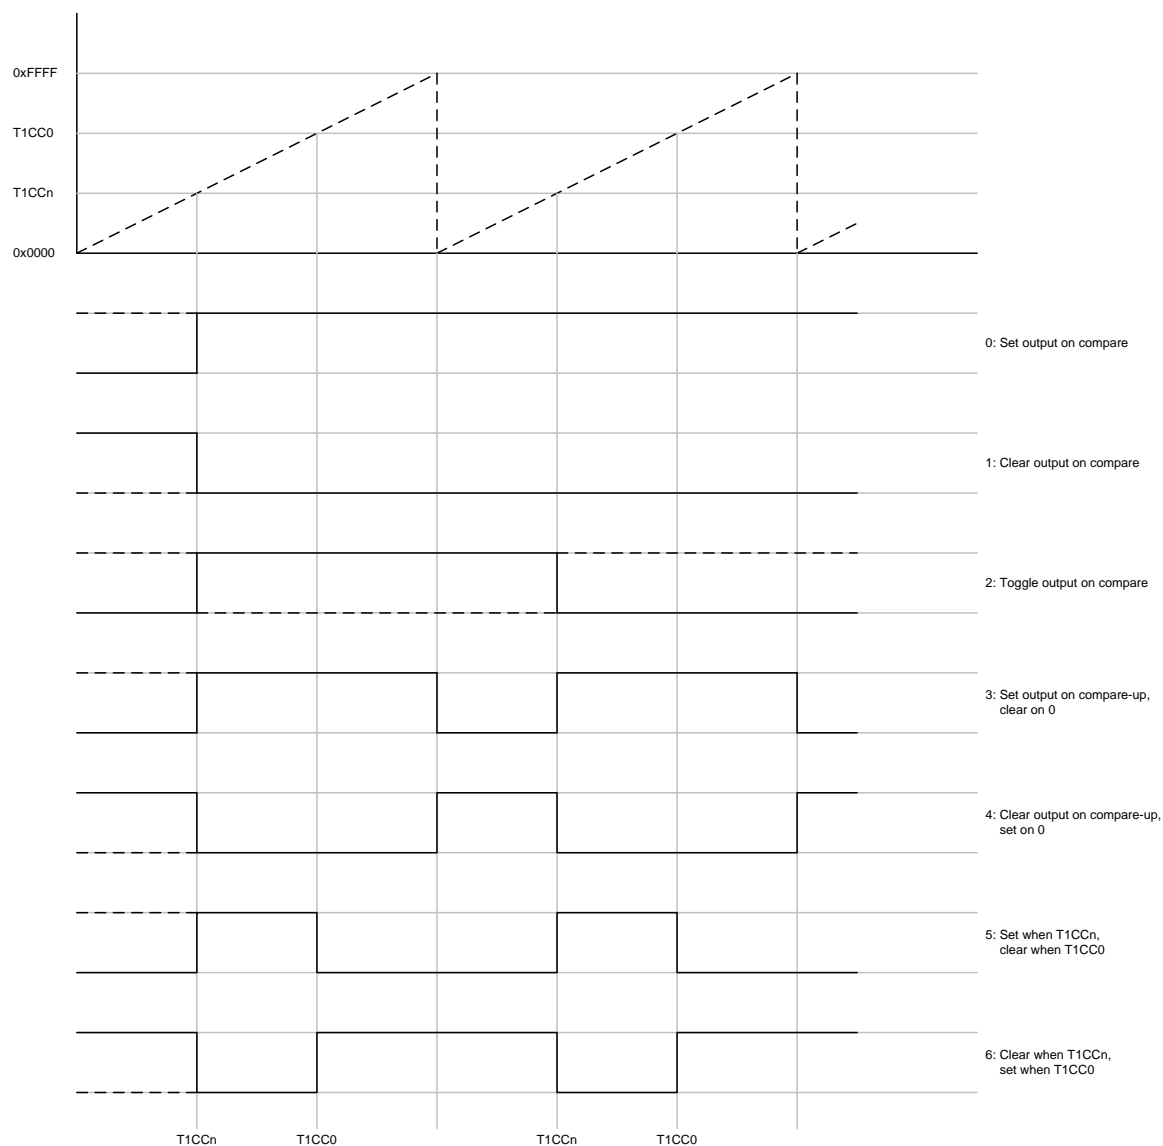
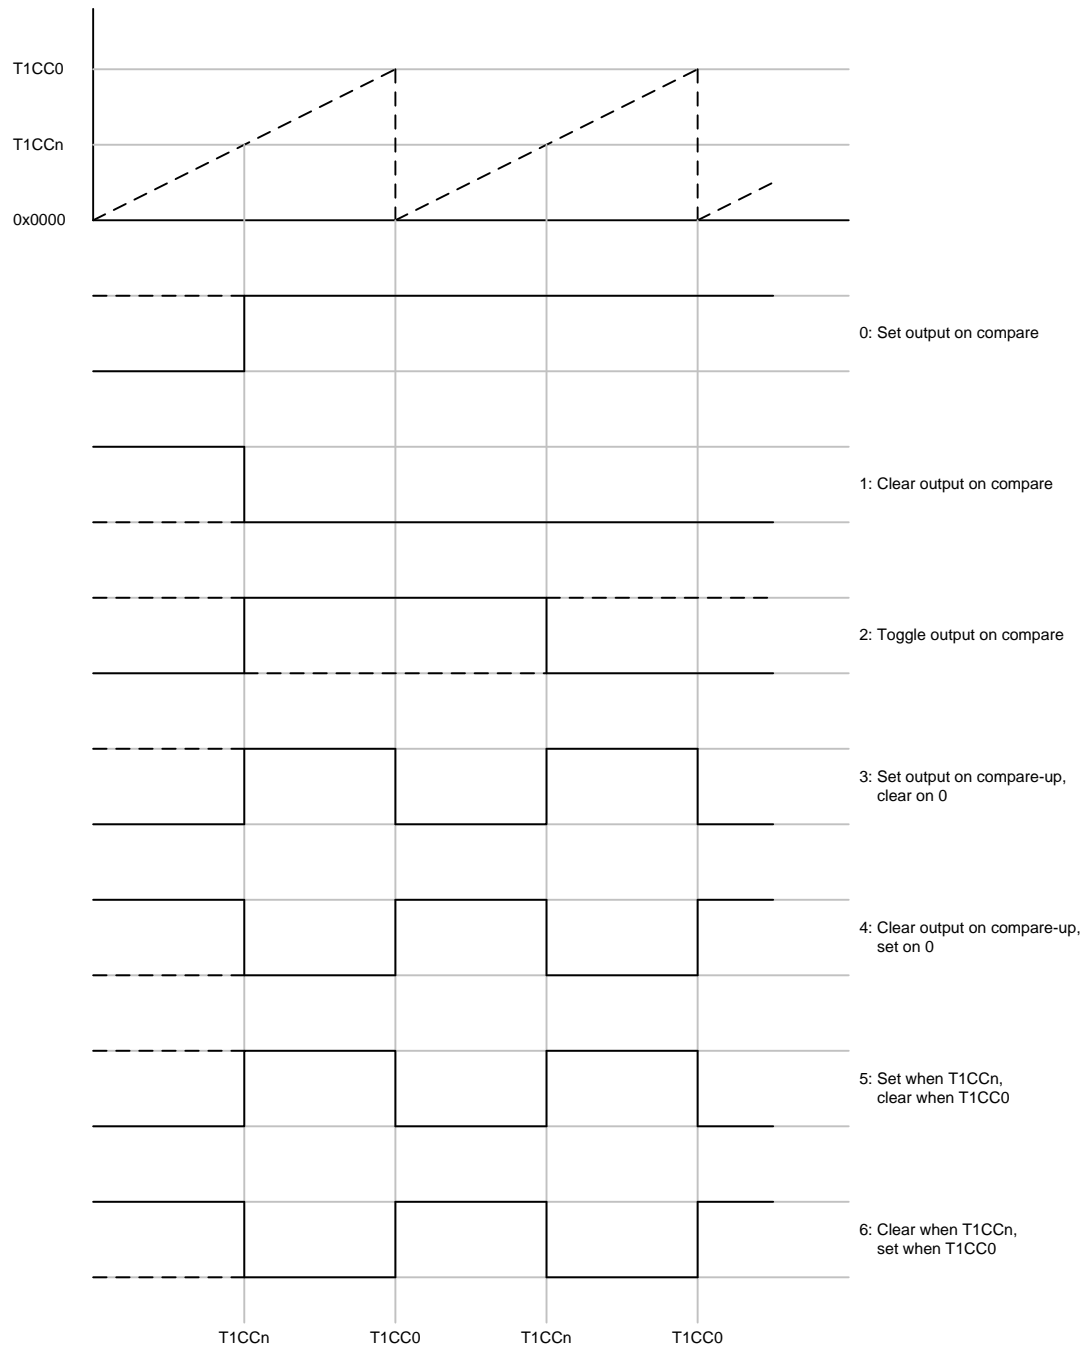
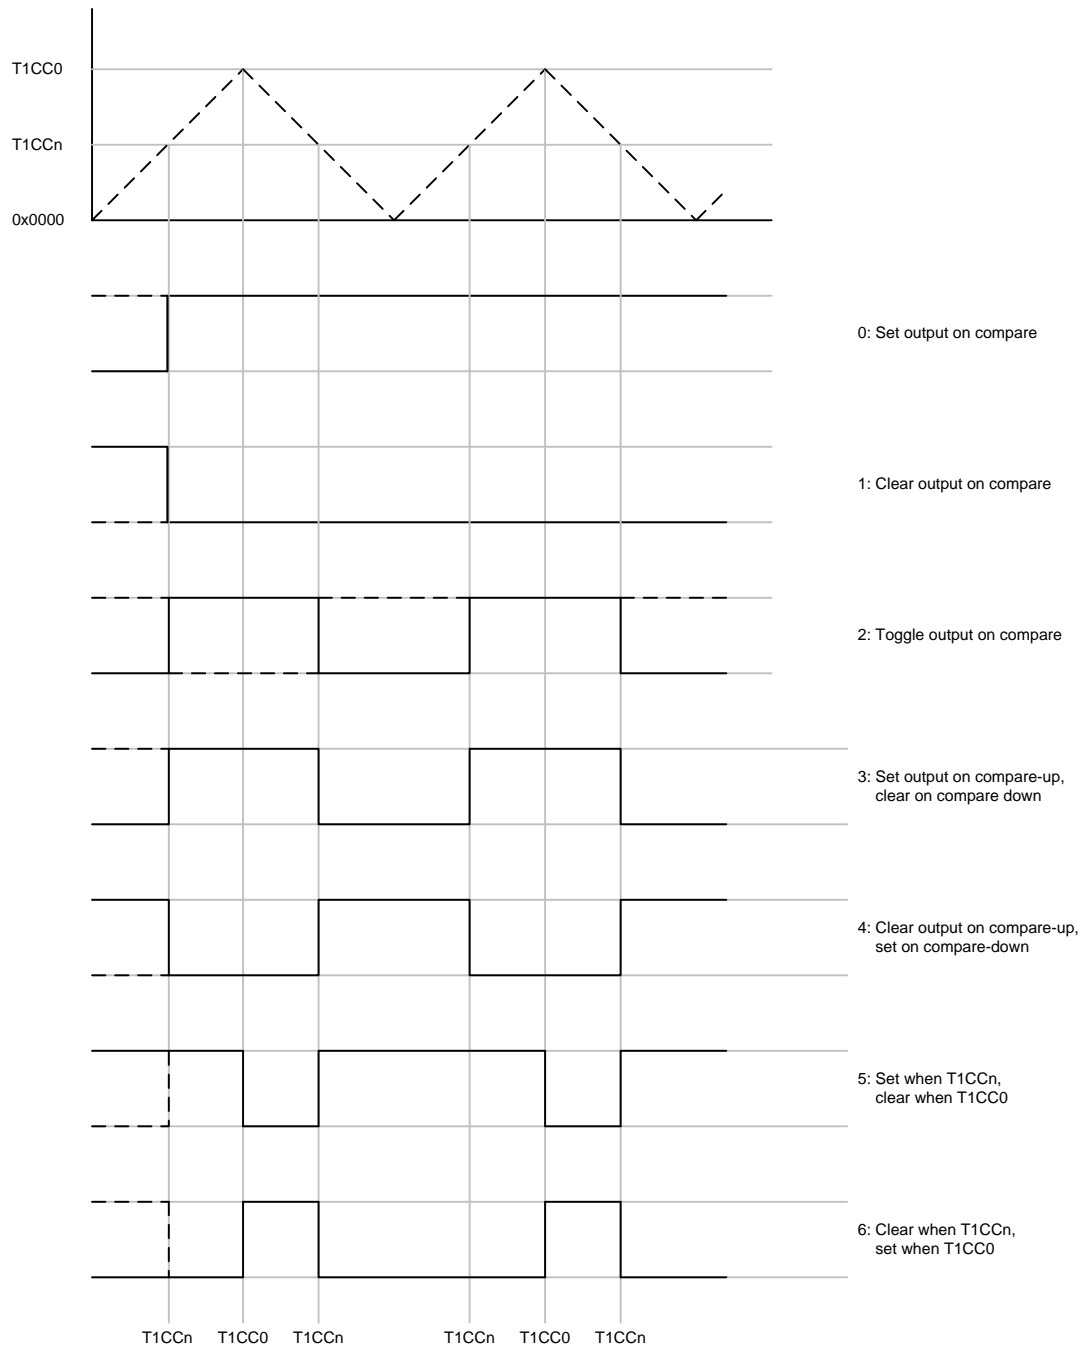

Figure 32: Output Compare Modes, Timer Free-running Mode
Figure 33: Output Compare Modes, Timer Modulo Mode
Figure 34: Output Modes, Timer Up/Down Mode
Examples of output compare modes in various timer modes are given in Figure 32, Figure 33, and Figure 34.
**Edge-aligned:** PWM output signals can be generated using the timer modulo mode and channels 1 and 2 in output compare mode 5 or 6 (defined by `T1CCTLn.CMP` bits, where *n* is 1 or 2) as shown in Figure 33. The period of the PWM signal is determined by the setting in `T1CC0` and the duty cycle is determined by `T1CCn`.
PWM output signals can also be generated using the timer free-running mode and channels 1 and 2 in output compare mode 5 or 6 as shown in Figure 32. In this case the period of the PWM signal is determined by `CLKCON.TICKSPD` and the prescaler divider value in `T1CTL.DIV` and the duty cycle is determined by `T1CCn` (*n* = 1 or 2).
For both modulo mode and free-running mode it is also possible to use compare mode 3 or 4 to generate a PWM output signal (see Figure 32 and Figure 33).
or 4 (defined by  $T1CCTLn.CMP$  bits, where  $n$  is 1 or 2) is selected depending on required polarity of the PWM signal (see Figure 34). The period of the PWM signal is determined by  $T1CC0$  and the duty cycle for the channel output is determined by  $T1CCn$  ( $n = 1$  or  $2$ ).